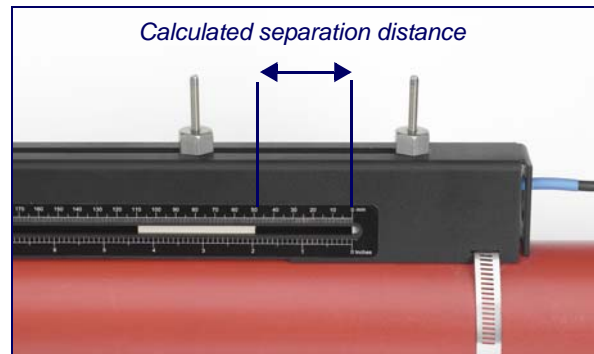

Figure 2.13
- Position the upstream transducer so that the inner face of the transducer is set to the required separation distance on the ruler, as shown in Figure 2.13 (50 mm in this example).